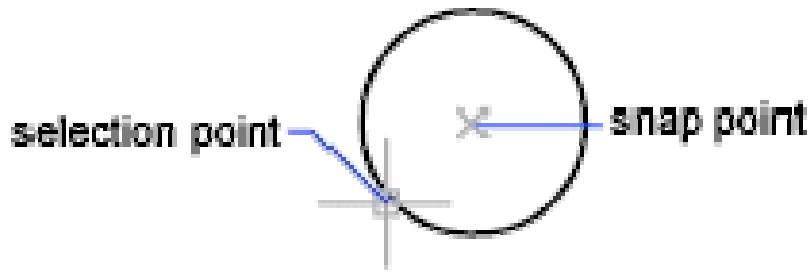

Figure 7.9 – Center
*Center* (fig. 7.9) snaps to the center of an arc, circle, ellipse, or elliptical arc.